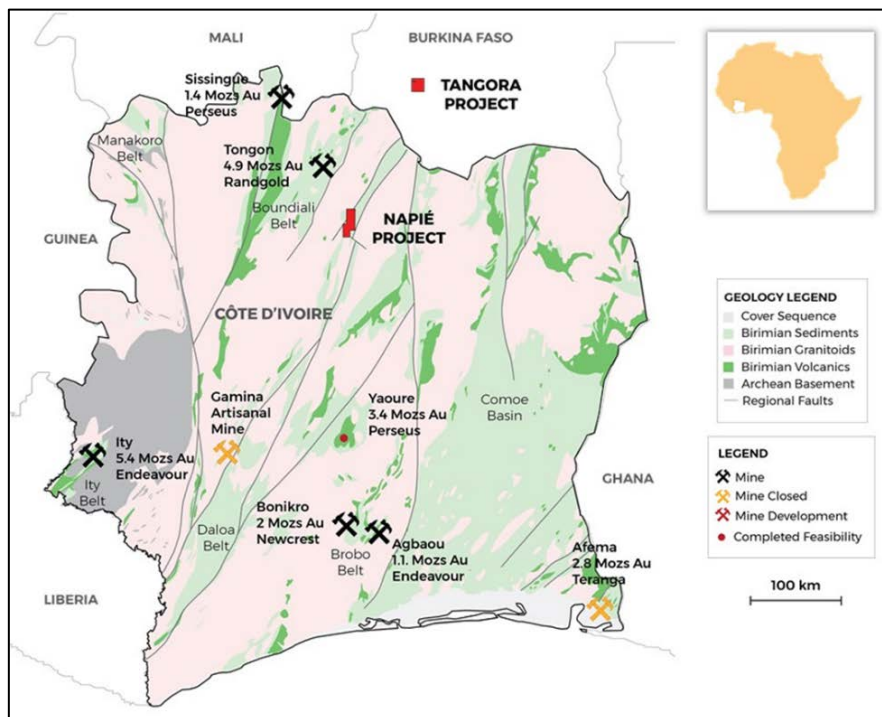

Figure 2: Napié Project location - Cote d’Ivoire
Mako Gold Limited (“Mako” or “the Company”; ASX:MKG) is pleased to report first assay results received from the Company’s maiden reverse drilling (RC) program at the Napié Project in Côte d’Ivoire (Figure 2). Mako is earning up to a 75% interest in the Napie Project under a farm-in and joint venture agreement with Occidental Gold SARL, a subsidiary of West African gold miner Perseus Mining Limited (ASX/TSX:PRU)1.